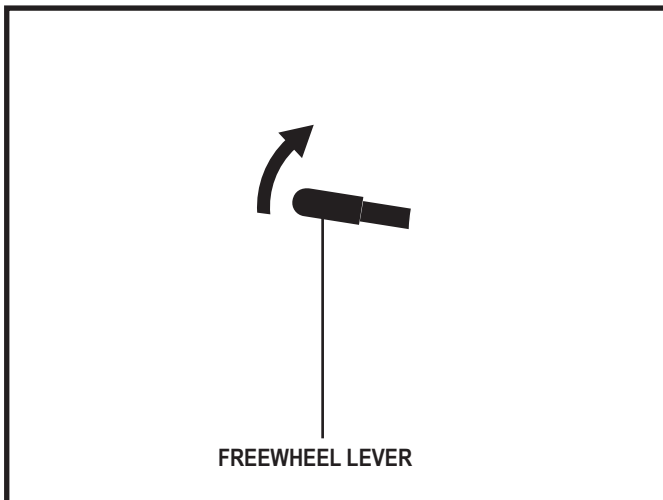

Figure 4. Drive Mode (Drive Engaged)
2. Pull both levers up to engage the drive motors (drive mode). See figure 4.